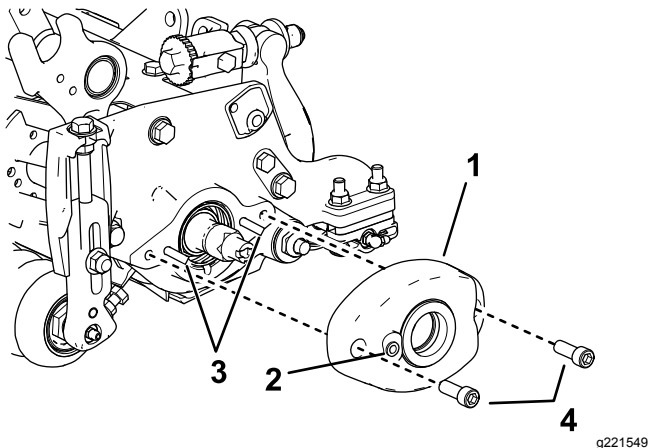
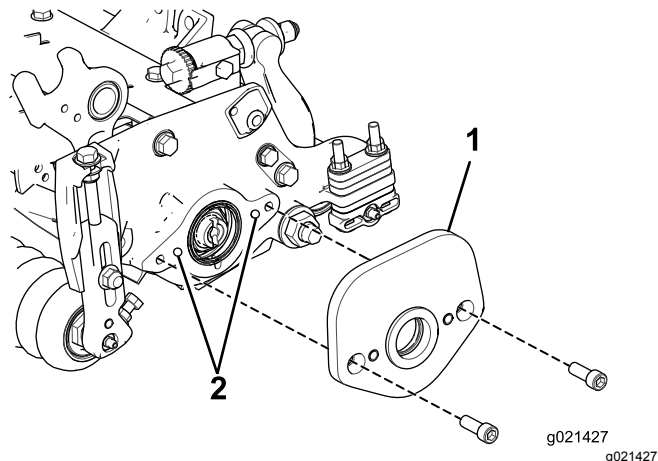

Figure 10
Figure 11
16. Mount the roller brush housing to the reel bearing housing with 2 hex-socket Bolts (3/8 x 1 inch) (Figure 10 and Figure 11). Position the roller brush housing so that the O-ring is facing towards the cutting unit.